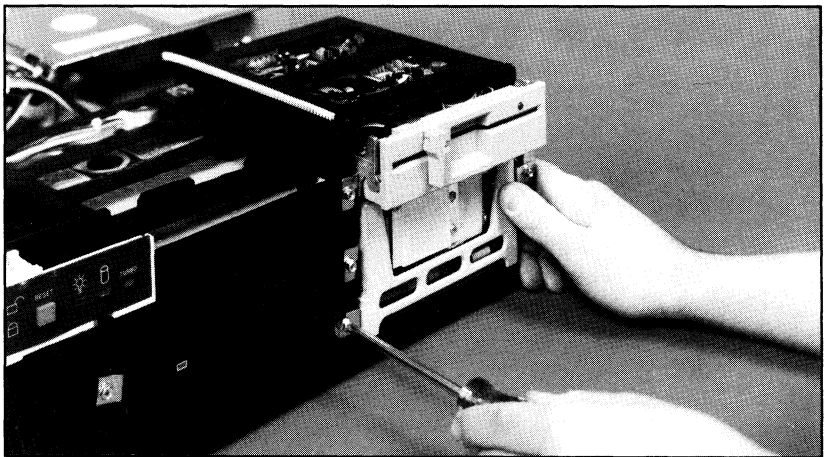

Figure 2-10. Securing the Drive with a Mounting Bracket
6. Secure the hard disk drive in place by attaching the mounting bracket into the drive and the hole to the left of the drive (Figure 2-10).
7. Slide the hard disk all the way into the chassis opening and secure the drive in place by attaching the mounting bracket into the drive and the hole to the left of the drive (Figure 2-10).